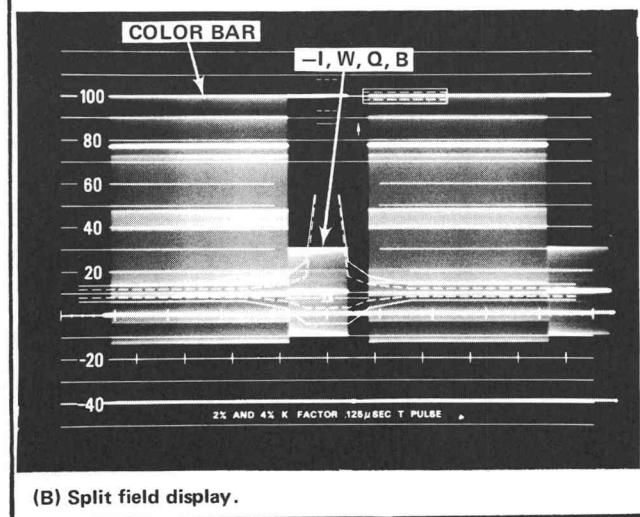

Fig. 2-8. Output waveforms controlled by the BARS lever switch.
lowed by a 100 IRE white bar, a Q bar, and then a black level for the remainder of the line. See Fig. 2-8(A).
12. Change the Type R140 BARS switch to the SPLIT FIELD position and the Type RM529 HORIZONTAL DISPLAY switch to the 2 FIELD position. Note that the field is split to include a color bar signal for the first 11.5 ms and a $-I$, W, Q, B signal for the next 3.8 ms. See Fig. 2-8(B). Return the BARS switch to the FULL FIELD position and the Type RM529 HORIZONTAL DISPLAY switch to the 2 LINE position.